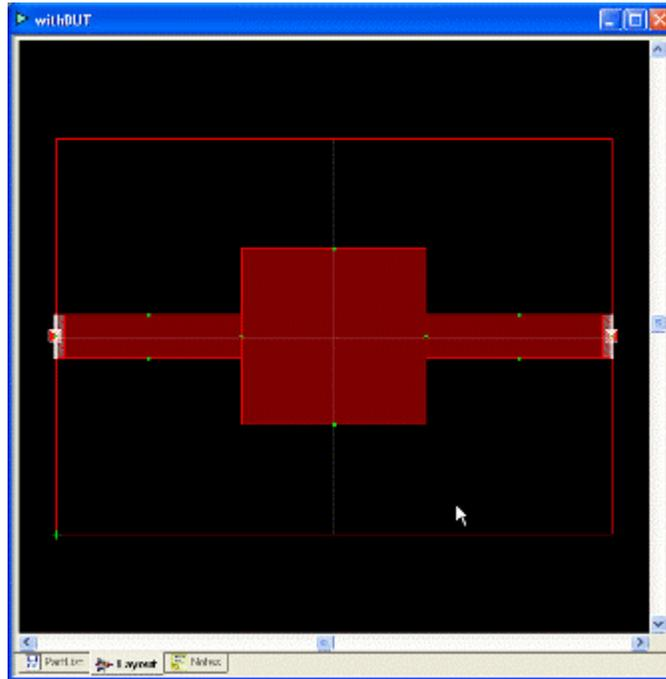

Figure 2
1. The PCB with DUT (shown in Figure 2).